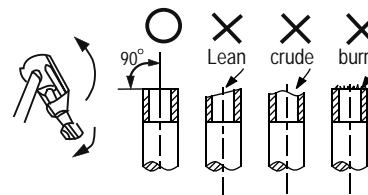

Fig. 7-5
- Cut pipe using a pipe cutter. (Refer to Fig. 7-5)